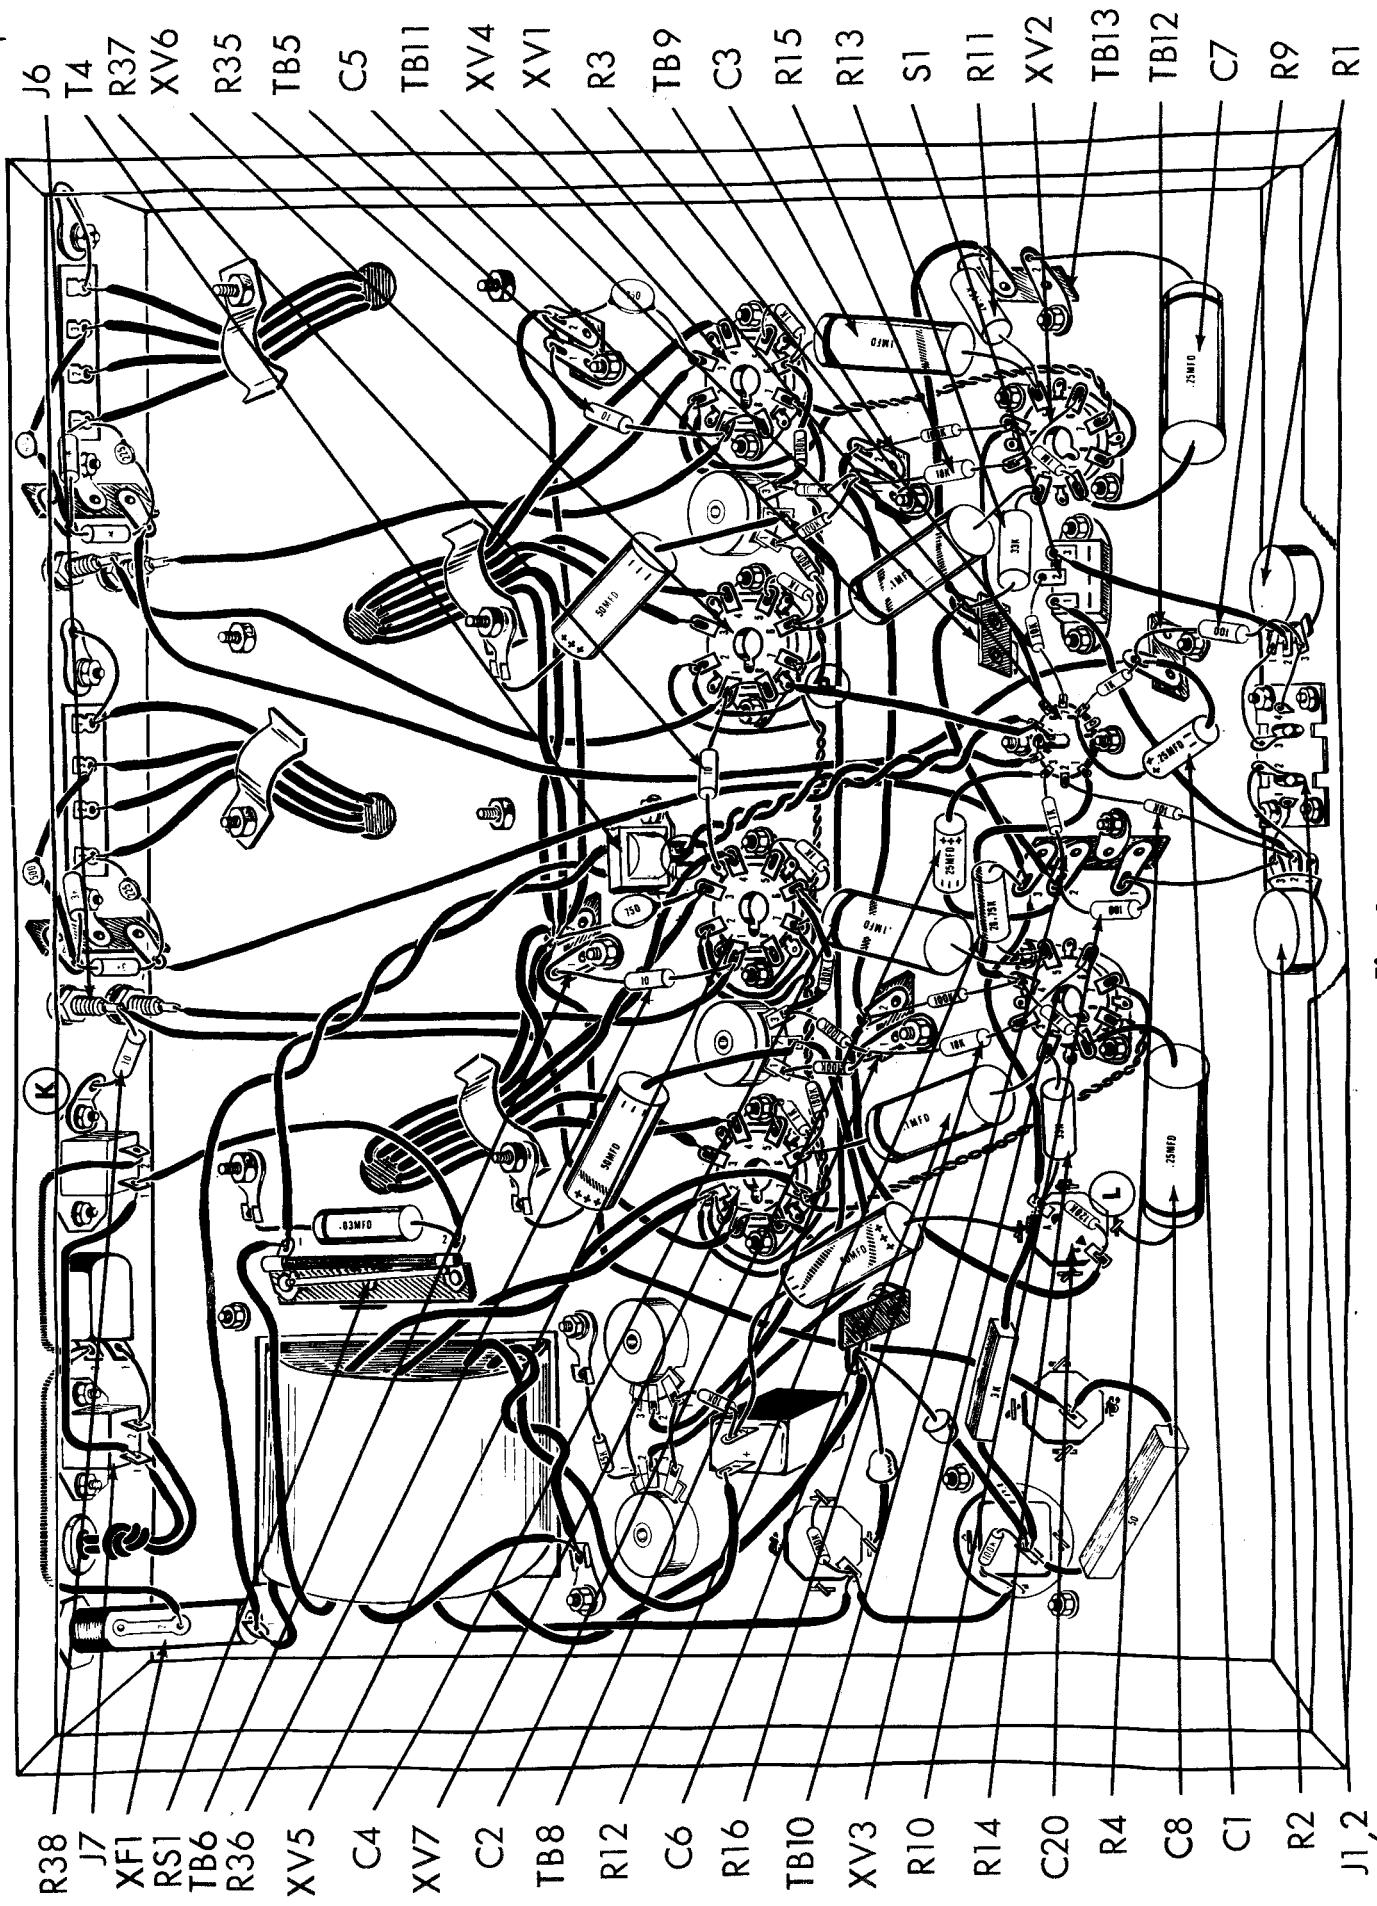

Fig. 6
- ( ) 1. Fig. 6. Connect a 1 1/4" piece of bare wire from R2-3(C) to TB10-1(C).
- ( ) 2. Fig. 6. Connect a 1 1/4" piece of bare wire from J1, 2-1 (S1) to R2-3 (S2).
- ( ) 3. Fig. 6. Connect a 1 1/2" piece of bare wire from J1, 2-2 (S1) to R2-1 (S1).
- ( ) 4. Fig. 6. Connect a 1 1/4" piece of bare wire from J1, 2-4 (S1) to R1-3 (C).
- ( ) 5. Fig. 6. Connect a 1 1/4" piece of bare wire from J1, 2-3 (S1) to R1-1 (S1).
- ( ) 6. Fig. 6. Connect a 3" piece of green wire from R1-2 (S1) to S1-3 (S1).
- ( ) 7. Fig. 6. Connect a 4" piece of green wire from R2-2 (C) to S1-1 (S1).
- ( ) 8. Fig. 6. Cut both leads on a 25mfd 6 volt electrolytic capacitor, C1, to 1". Cover each lead with a 3/4" piece of spaghetti. Connect the positive lead to XV1-8 (S2) and the negative lead to TB12 (C).
- ( ) 9. Fig. 6. On the other 25mfd 6 volt electrolytic capacitor C2, cut the positive lead to 3/4". Cover this lead with a 1/2" piece of spaghetti and connect to XV1-3 (S2). Cut the remaining lead to 1 1/4" and cover it with a 1" piece of spaghetti. Connect this lead to TB10-2 (C).
- ( ) 10. Fig. 6. Cut all leads on two 100Ω (brown, black, brown, gold) 5% resistors, R9 and R10, to 1 1/2". Connect R9 from TB12 (S4) to R1-3 (S2). Connect R10 from TB10-1 (S2) to TB10-2 (S4).
- ( ) 11. Fig. 6. Cut one lead of the 10K (brown, black, orange, silver) resistor R3 to 1 1/2" and the remaining lead to 1". Connect the shorter lead to XV1-7 (S1) and the longer lead to S1-2 (S1).
- ( ) 12. Fig. 6. Cut one lead on the 10K (brown, black, orange, silver) resistor, R4, to 1 1/2" and the remaining lead to 1 1/4". Connect the shorter lead to XV1-2 (S1) and the longer lead to R2-2 (S2).
- ( ) 13. Fig. 6. Cut all leads on two .25 mfd (red, green, yellow, white, yellow) 400 volt molded capacitors, C7 and C8, to 1 1/4". Cover one lead of C7 with a 1" piece of spaghetti and connect to XV2-1 (S2). Connect the remaining lead to TB13-2 (S1). Cover one lead of C8 with a 1" piece of spaghetti and connect to XV3-1 (S2). Connect the remaining lead to ground lug "L" (S1), at C20.
- ( ) 14. Fig. 6. Cut all leads on two 18K (brown, grey, orange, gold) 5%, 1 watt resistors R15 and R16, to 3/4". Connect R15 from XV2-3 (S2) to TB9-1 (S3). Connect R16 from XV3-3 (S2) to TB8-1 (S3).
- ( ) 15. Fig. 6. Cut all leads on two 28.75K (red, grey, grey, gold) 5%, 1 watt resistors, R11 and R12, to 1/2". Connect R11 from TB13-1 (S2) to XV2-5 (C). Connect R12 from XV3-5 (C) to TB10-3 (S3).
- ( ) 16. Fig. 6. Cut all leads on two 33K (orange, orange, orange, gold) 5%, 1 watt resistors, R13 and R14, to 3/4". Connect R13 from XV2-2 (C) to TB11 (S3). Connect R14 from XV3-2 (C) to C20-A (S4).
- ( ) 17. Fig. 6. Cut all leads on four .1mf (brown, black, yellow, white, blue) molded capacitors, C3, C4, C5, and C6, to 1". Connect C3 from XV2-5 (S2) to XV4-6 (S3). Connect C5 from XV2-2 (S2) to XV6-6 (S3). Connect C4 from XV3-5 (S2) to XV5-6 (S3). Connect C6 from XV3-2 (S2) to XV7-6 (S3).
- ( ) 18. Fig. 6. Cut both leads on the 10Ω, 1 watt, 1% resistor, R38 to 3/4". Connect from J6 (S2) to ground lug "K" (S1).
- ( ) 19. Fig. 6. Cut all leads on three 10Ω, 1 watt, 1% resistors, R35, R36 and R37 to 3/4". Connect R35 from XV4-1 (S3) to TB5-1 (S1). Connect R37 from XV6-1 (S3) to ground lug "N" (S1) at XV5. Connect R36 from XV5-1 (S3) to TB6-1 (S1).
- ( ) 21. Connect a 3" piece of yellow wire from the center post (S1) on XV1, through XV1-5 (C) to ground lug "P" (S1) on XV6.
- ( ) 24. Fig. 6. Push the end of the line cord with tinned leads through the rubber grommet at the rear of the chassis. Tie a knot in the line cord 2" from the tinned ends. This knot is to be tied inside the chassis so that the line cord cannot pull through the grommet. Connect one of the tinned leads to J7-2 (S2) and the remaining tinned lead to J7-1 (S2).